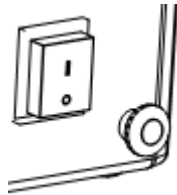
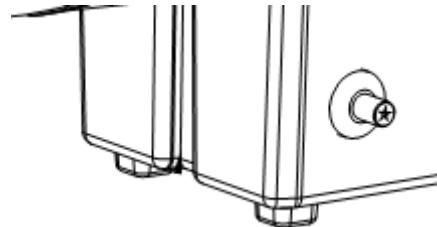

Figure.3
Figure.4
- b. Push the gas valve button (Figure. 3) and push repeatedly the piezoelectric lighter until the flame lights up. (Figure. 4)